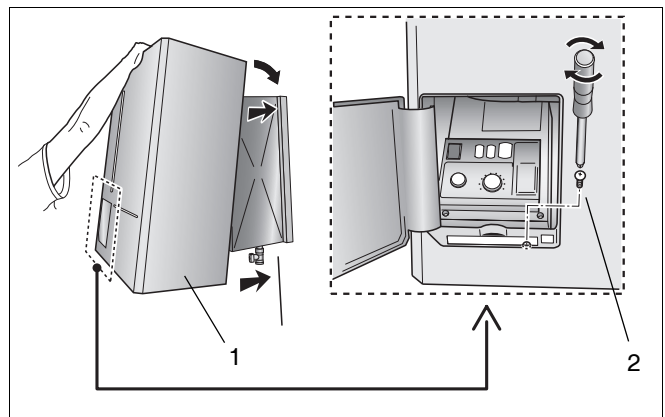

Fig. 36 Fitting the case
- Fit the casing (see fig. 36, item 1).
- Tighten the fixing screw (see fig. 36, item 2).